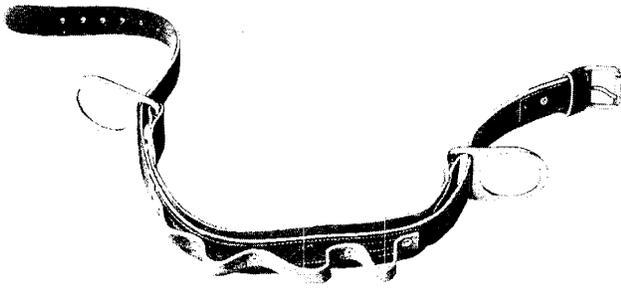

Fig. 1—C Body Belt
2.03 Fig. 1 shows a C Body Belt as a "Left" belt. To be worn as a "Right" belt, the belt is turned over so that the belt buckle is on the left side of the wearer. When ordering combination holsters for use with the belt, specify either "Left" or "Right" type.